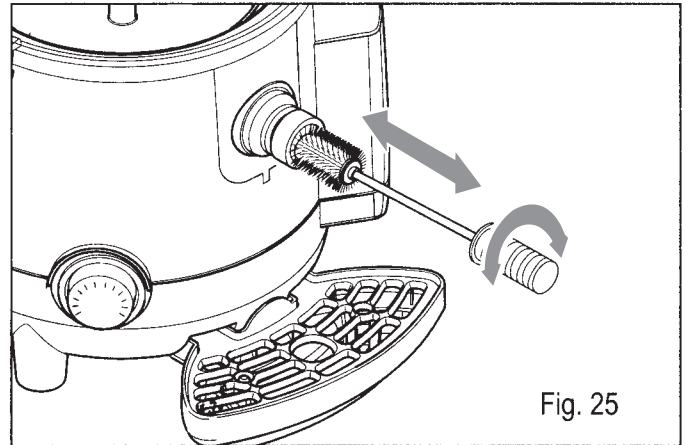

Fig. 25
**Warning: only use the cleaning brush provided to clean the channel connecting between the tank and the tap (see section 7.5, figure 25); never use this brush to clean other parts.**